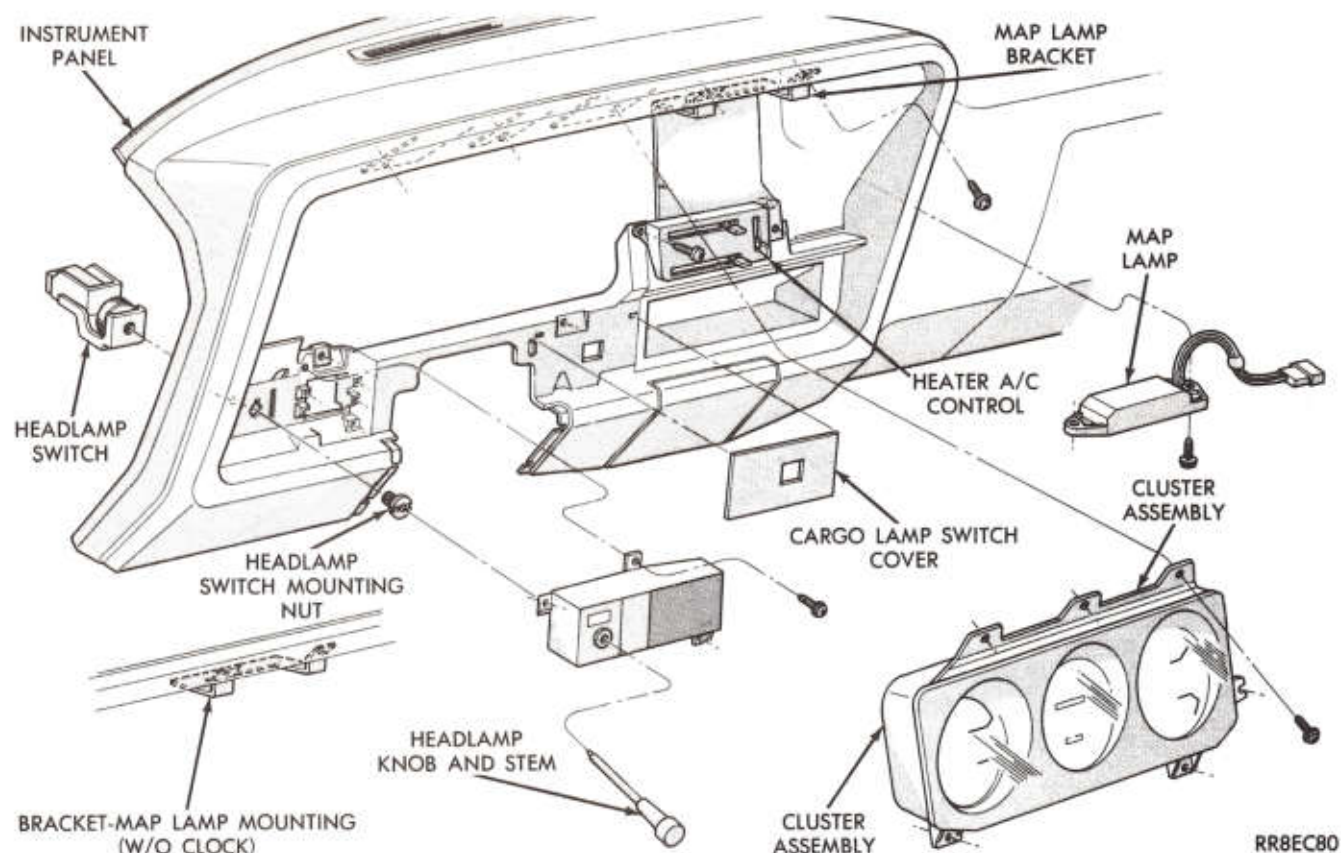

Fig. 2—Instrument Panel Switches
- (3) Tighten the two bracket nuts to 110 inch-pounds (12 N·m) torque.
- (4) Slide toe plate into position, install attaching screw, tighten to 35 in. lbs. (4 N·m).
- (5) Install toe plate nuts and washers and tighten to 200 in. lbs. (23 N·m).
- (6) Connect cable to shift indicator bracket (Fig. 2).
- (7) Position upper steering column cover and slide upward until tangs snap into place.
- (8) Position lower steering column cover and install four attaching screws.
Headlamp Switch (Fig. 2)